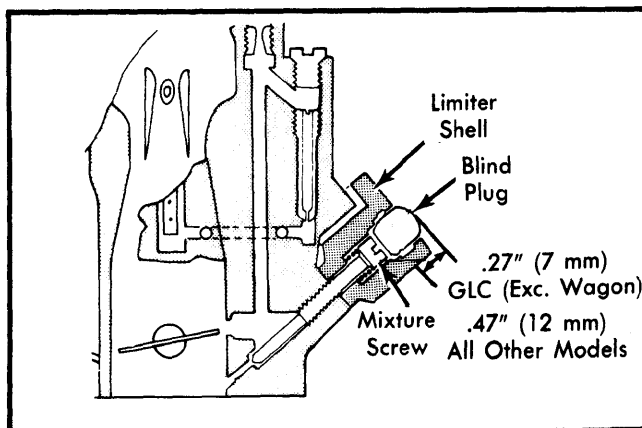

Fig. 5 Idle Mixture Limiter Shell and Blind Plug on Carburetor
- 1) Remove carburetor from engine. Separate carburetor main body and throttle body. Using a hacksaw, cut through limiter shell (from cap end) .27" (7 mm) on GLC models (except Wagon) or .47" (12 mm) on all other models. See Fig. 5. Remove and discard limiter shell, mixture spring and mixture screw.